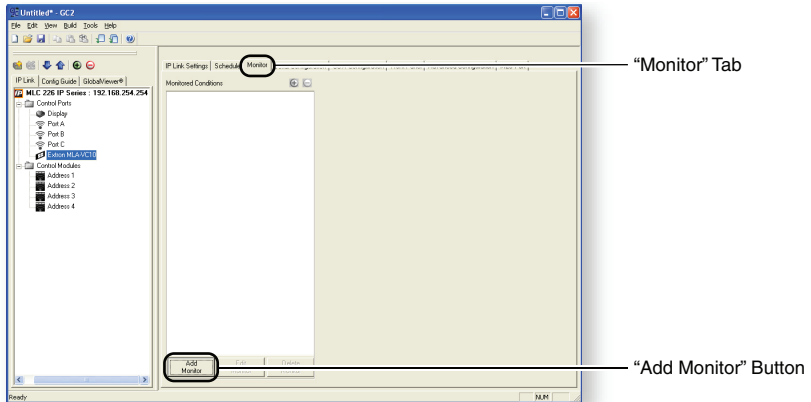
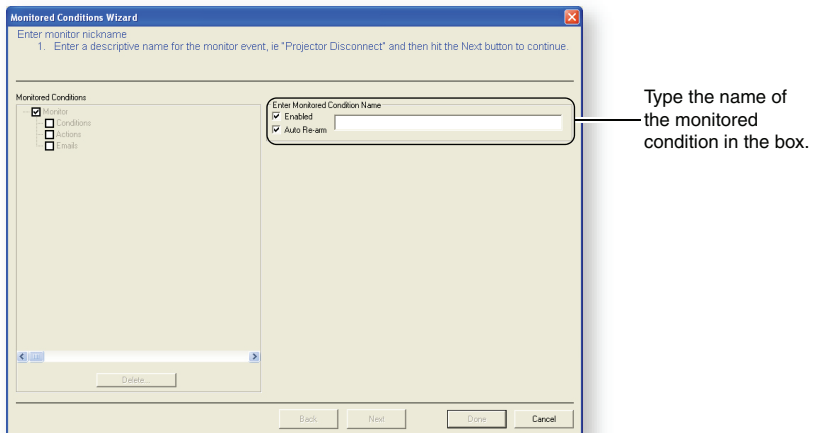

Figure 3-8 — Adding a monitored condition (step 1)
Figure 3-9 — Monitored Conditions Wizard (step 2)
1. Select the **Monitor** tab and click on the **Add Monitor** button (see figure 3-8). The Monitored Conditions Wizard opens (see figure 3-9).